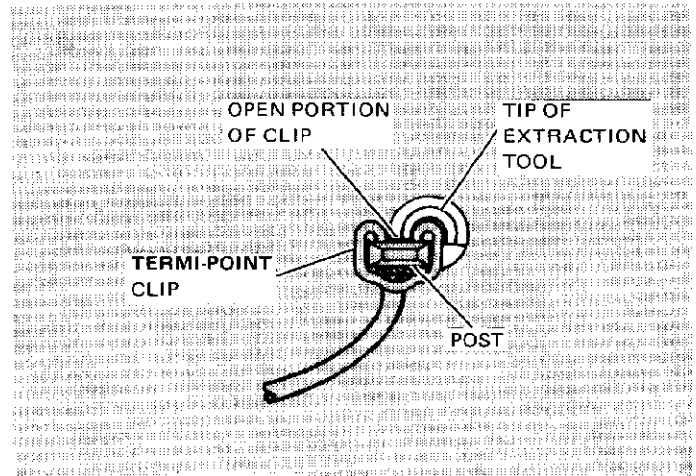

Figure 2
- Hold tool perpendicular to panel. Then, hook the tip of the extraction tool under the curl on the clip. See Figure 2.